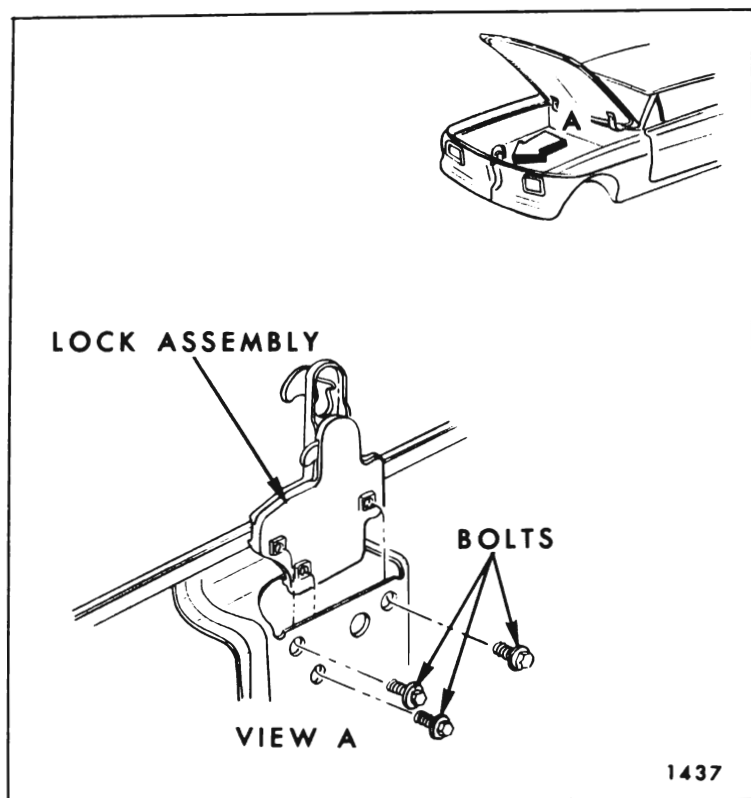

Fig. 3-31—Front Compartment Lid Lock
2. Remove screws (Fig. 3-31) securing lock to lid lock support and remove lock assembly.